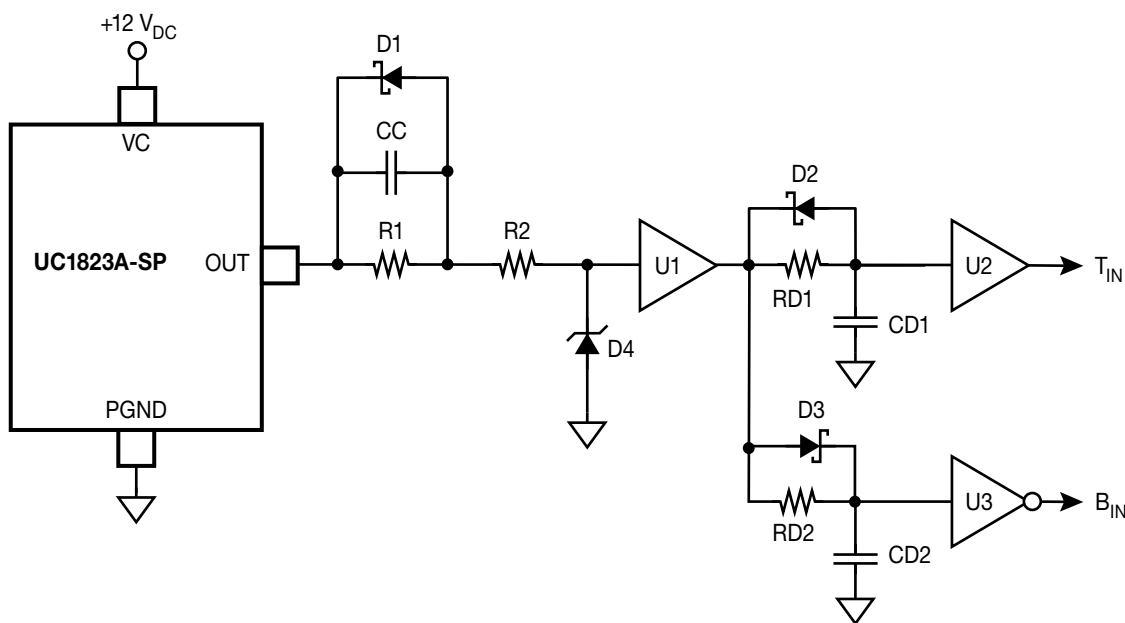
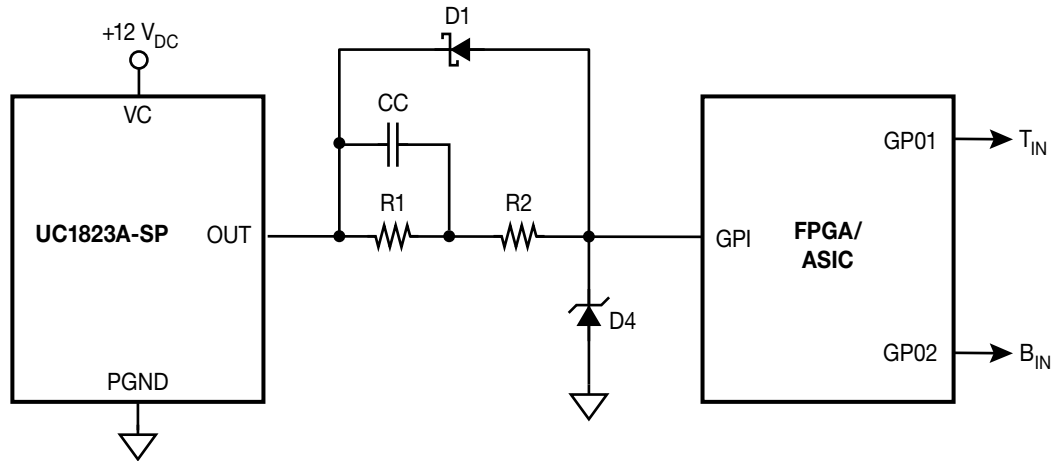
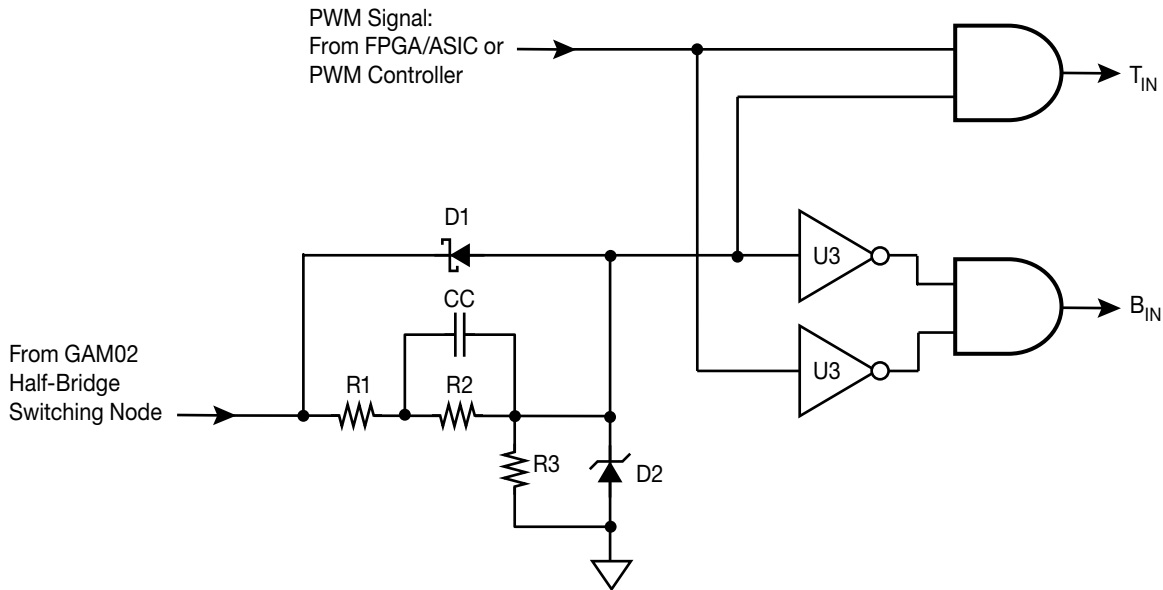

Figure 8. Zener Diode Logic Input Voltage Clamp Circuit and Dead Time Delay Circuit
Figure 9. Zener Diode Logic Input Voltage Clamp Circuit with ASIC/FPGA Two-Phase Clock (With Dead Time) Generator
Figure 10. Adaptive Dead Time Control for Cross-Conduction/Shoot-Through Avoidance
A Zener diode may be used to clamp the B_{IN} and T_{IN} logic inputs of the 72-001-GAM02 in order to interface the module to a high output voltage level PWM controller, as shown in Figure 8. The output of the UC1823A is a totem-pole configuration, and the output switches between $0 V_{DC}$ and $12 V_{DC}$ as logic 0 and logic 1, respectively. The transition times between logic states for a 1000 pF load are typically 20 ns , but much faster with lighter loads.
The same Zener diode clamping circuit as shown in Figure 8 may be used to clamp the output of the UC1823A to a lower voltage level in order to present it to an ASIC/FPGA in order to generate the requisite two-phase clock signals for the B_{IN} and T_{IN} logic inputs of the 72-001-GAM02. A typical circuit for this circuit implementation is shown in Figure 9:
In the circuit of Figure 9 all the high-speed and high accuracy analog functions associated with the PWM controller are performed off-chip from the FPGA/ASIC. The programmable logic of the FPGA/ASIC and the associated firmware code is responsible for generating the two-phase clock with dead times required by the B_{IN} and T_{IN} inputs of the 72-001-GAM02.
In circuits shown in both Figure 8 and 9 the dead times required by the 72-001-GAM02 to avoid cross-conduction/shoot-through are generated in a “brute force” manner either with analog components (Figure 8) or with programmable logic and firmware in an FPGA/ASIC (Figure 9). There is another way to obtain the optimum dead times for the 72-001-GAM02 device – adaptive dead time control, as shown in Figure 10.
Adaptive dead time control utilizes the state of the switching node (SN) of the GAM02 in order to allow the B_{IN} or T_{IN} signals (in this case the B_{IN} signal is the simple logical inverse of the T_{IN} signal) to be applied to the B_{IN} or T_{IN} logic inputs of the 72-001-GAM02 in order to avoid dynamic cross-conduction/shoot-through in the low- and high-side output power HEMTs. If the switching node of the 72-001-GAM02 is “low” (i.e. at PGND) then the low-side switch is turned ON, or in the process of turning OFF, and the high-side switch must not be turned ON (i.e. a logic 1 applied to the T_{IN} input). Similarly, if the switching node is “high” (i.e. at V_{DD}), then the high-side switch is turned ON, or in the process of turning OFF, and the low-side switch must not be turned ON (i.e. a logic 1 applied to the B_{IN} input). However, if the B_{IN} input is logic 0 and the switching node is “high” (i.e. the high-side catch Schottky conducting load current) then the T_{IN} input may be set to logic 1 to turn on the high-side driver. This same situation applies to the high-side driver: If the T_{IN} input is logic 0 and the switching node is “low” (i.e. the low-side catch Schottky is conducting load current) then the B_{IN} input may be set to logic 1 to turn on the low-side driver. The circuit shown in Figure 10 relies on a similar voltage clamping scheme for the switching node as was utilized in Figures 8 and 9, with the exception that the power supply V_{DD} , and subsequent range of the switching node, could be much higher than $12 V_{DC}$ – in fact up to $50 V_{DC}$ for the 72-001-GAM02. So greater care must be exercised in the selection of the clamping components to avoid excessive power dissipation in them, and the associated decrease in circuit efficiency. It is strongly recommended to simulate the circuit once the components have been selected to ensure that the proper clamping level is achieved and that the power dissipation of the clamp circuit is kept to a reasonable level so as not to affect overall circuit operating efficiency.
The high-side power switch gate driver utilizes a bootstrap capacitor to provide the proper bias for this circuit during switching operation. As such, this capacitor **MUST** be periodically re-charged from the V_{BIAS} power supply. As a stand-alone high-side switch with a ground-connected/ground-sensed load, this recharging takes place each time the switch is turned OFF and the T_{OUT} node returns to ground potential ($0 V_{DC}$). However, when connected in conjunction with the low-side power switch in the Half-Bridge configuration (See Figure 10, for example), this connection to ground does not exist until the low-side power switch is turned ON, thus creating a low impedance connection from T_{OUT} through the low-side power switch (B_{OUT} -PGND). If the high-side gate driver is not provided with periodic recharge during operation, damage may occur to the Module.